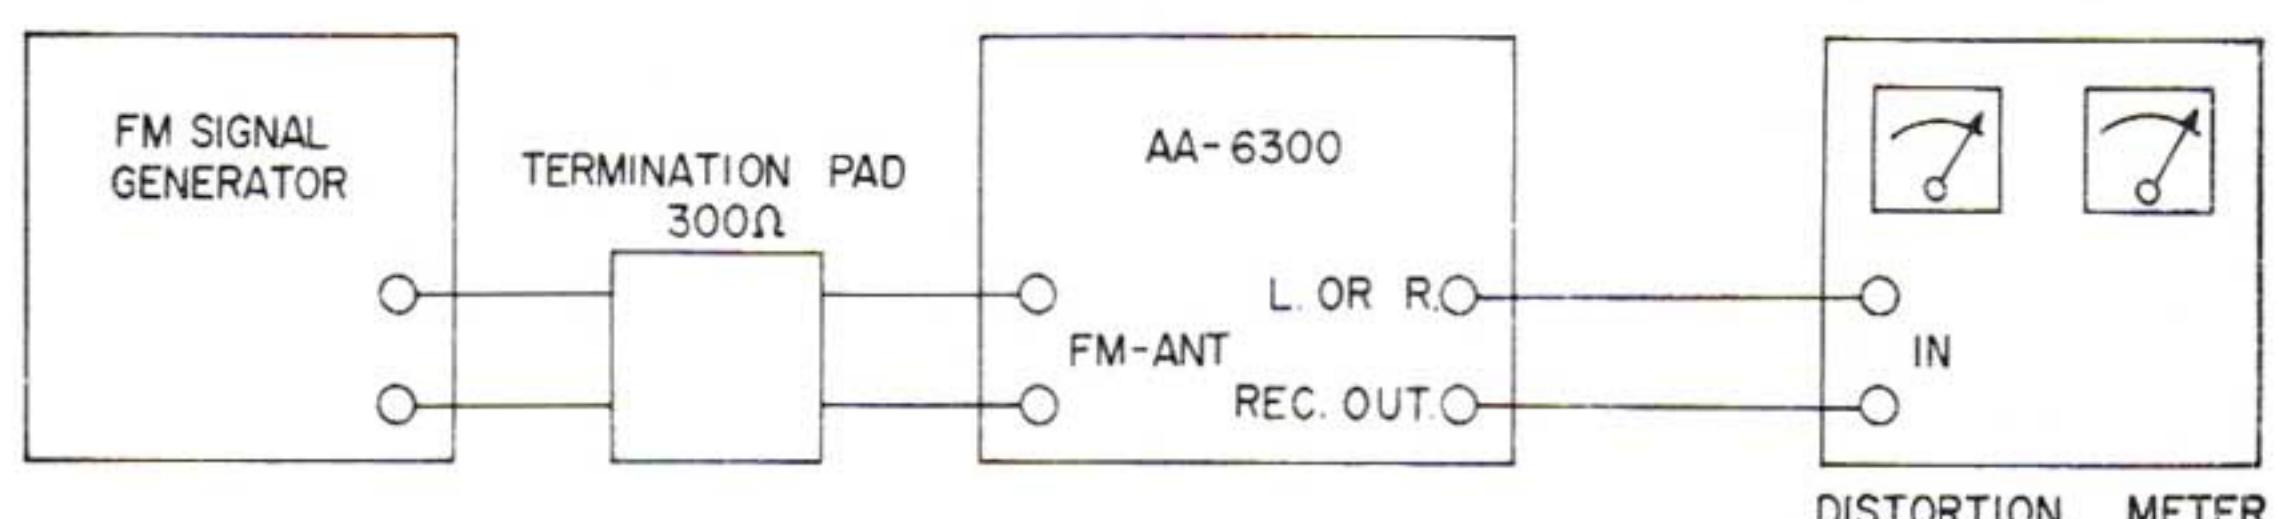

Fig. 5
Use the same instruments as used in item 1-2 (Fig. 5) and connect them in the same way.
- 1) Use the same instruments as used in item 1-2 and connect them in the same way (see Fig. 5). Set the Signal Generator frequency to 98 MHz, and the output to 60 dB (1 mV). Turn the tuning dial to receive this signal and make sure that the tuning indicator deflects more than 5 mm to both sides from beginning to end of signal reception.